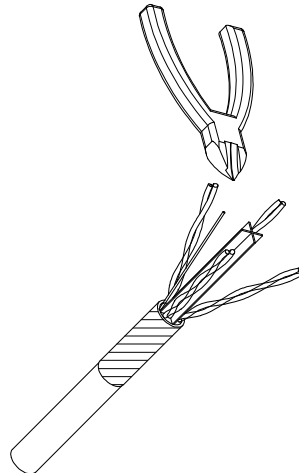

Fig.2
- 2) Untwist pairs and remove cable separator with wire clippers. (Fig. 2)